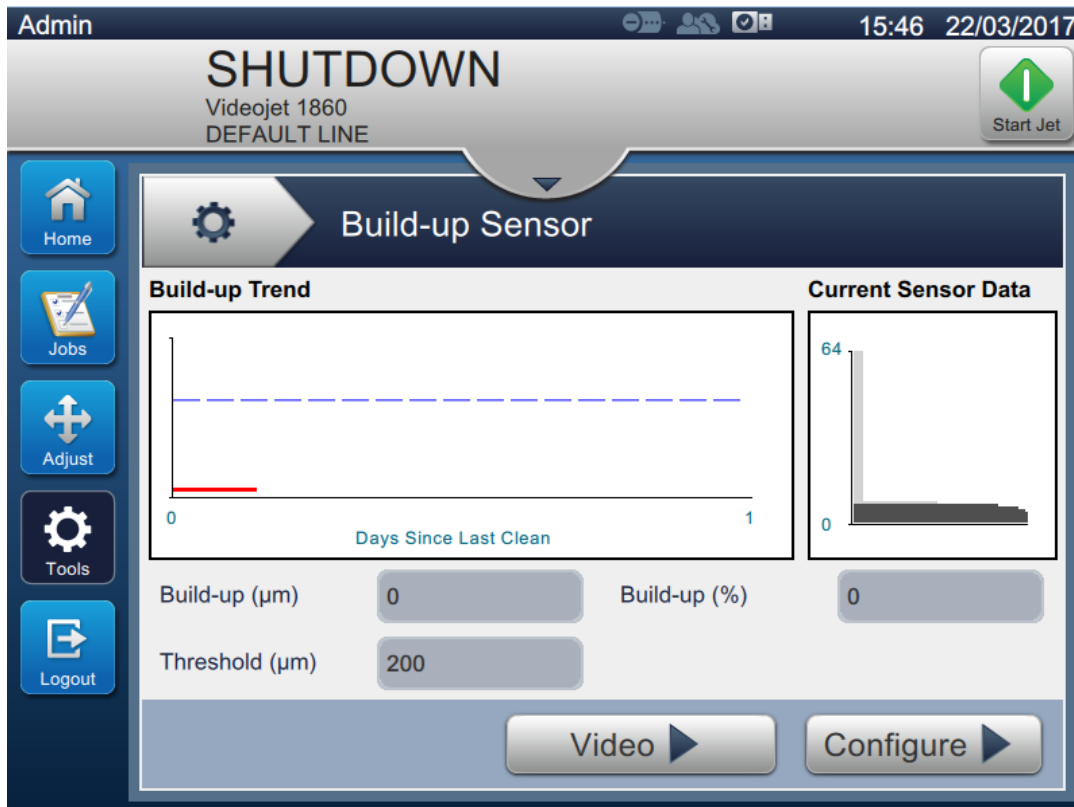

Figure 6-25: Ink Build-up Sensor
1. Touch the  button from the Tools screen. The Ink Build-up Sensor screen opens as shown in the Figure 6-25.